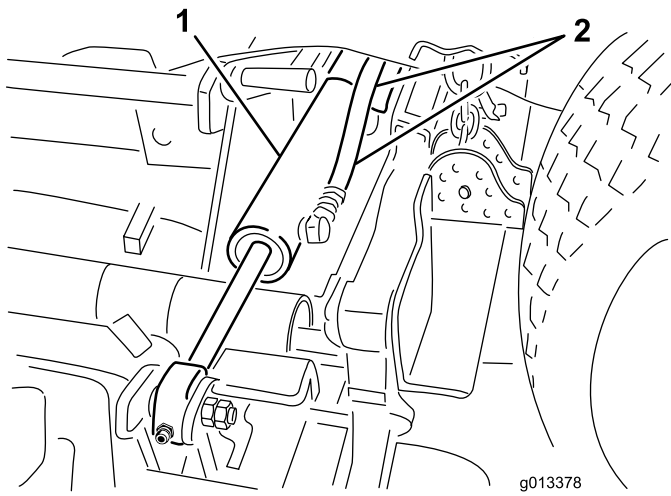

Figure 3
4. Disconnect the hydraulic hoses from the wing deck lift cylinders (Figure 3).